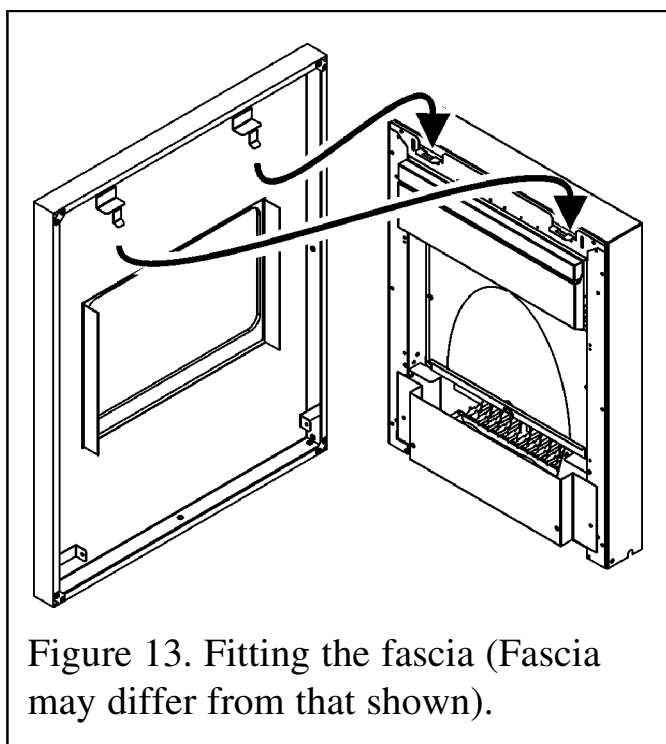

Figure 13. Fitting the fascia (Fascia may differ from that shown).
1. There are two hooked brackets on the top rear of the fascia. Locate the hooks into the brackets at the top of the heater (See figure 13).